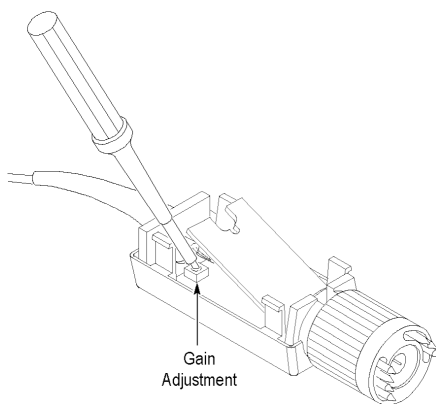

Figure 21: Accessing the Gain Adjustment
2. Carefully lift the back edge of the circuit board to access the gain adjustment. (See Figure 21.)